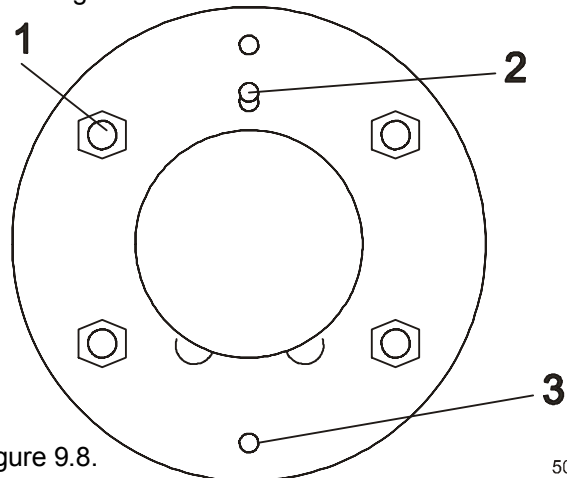

Figure 9.8.
For main bearings and seals, Figure 9.8, pos.2 there are located under the left and right service panel. Press the lubricant in slowly and let the drum rotate with the same speed as during washing.